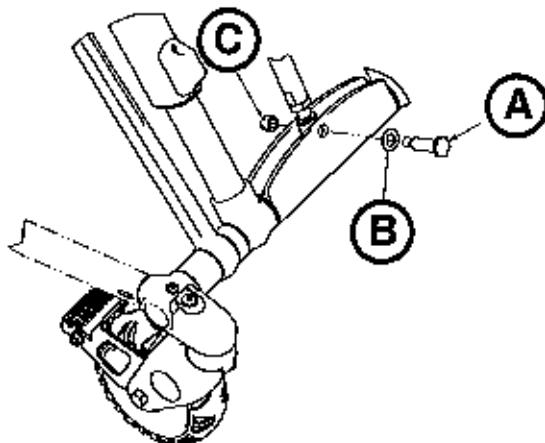

Figure 58
3. Using a 3/4" and 9/16" combination wrench, remove the rod attachment pln (A), washer (B), and Nylock hex nut (C) that secure the hydraulic cylinder to the base (Figure 58).